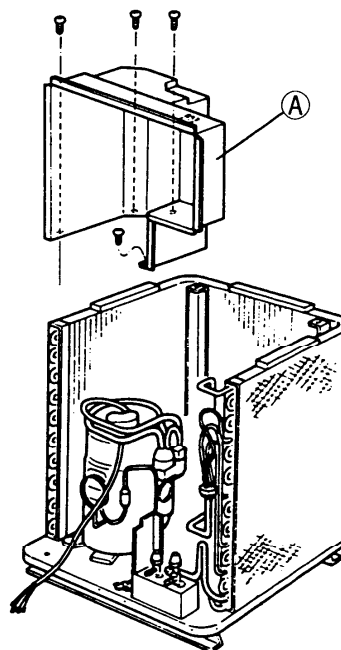

Fig. 20
- 1) Unfasten four screws fixing the cover (A). The cover can be removed by lifting it upward. Fig. 20